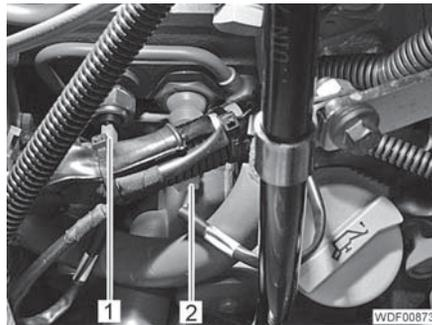

Fig. 45 Electrical connectors (center)
- Attach the connector (Fig. 45,2) onto the pressure switch.
- Attach the connector (Fig. 45,1) onto the pressure switch.